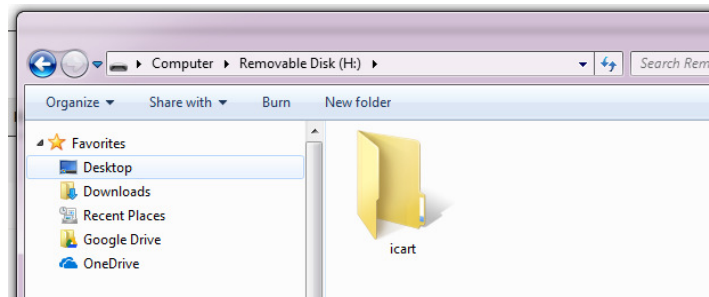
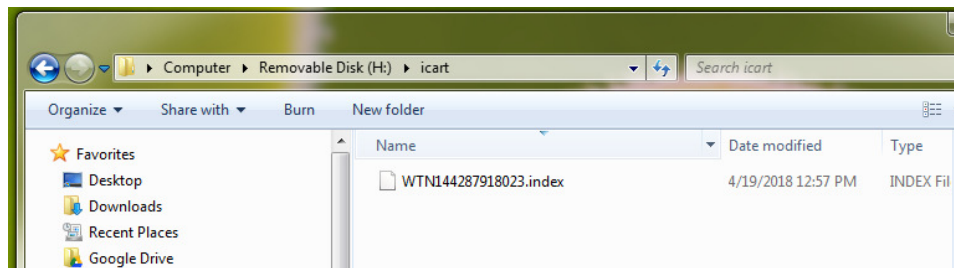

Figure 46
Figure 47
4. Once the file has been saved you will need to move the file to a flash drive. On the flash drive you will need to create a new folder titled **icart**. (See Figure 46) The file you are looking for should typically look like this: WTN0000000000000.index with the 0’s being replaced by the serial number of the **touch screen** on the machine you are exporting this planogram to. Move the file into the icart folder. (See Figure 47) NOTE: Failure to title the folder **icart** and not moving the file into the icart folder will result in an upload error.